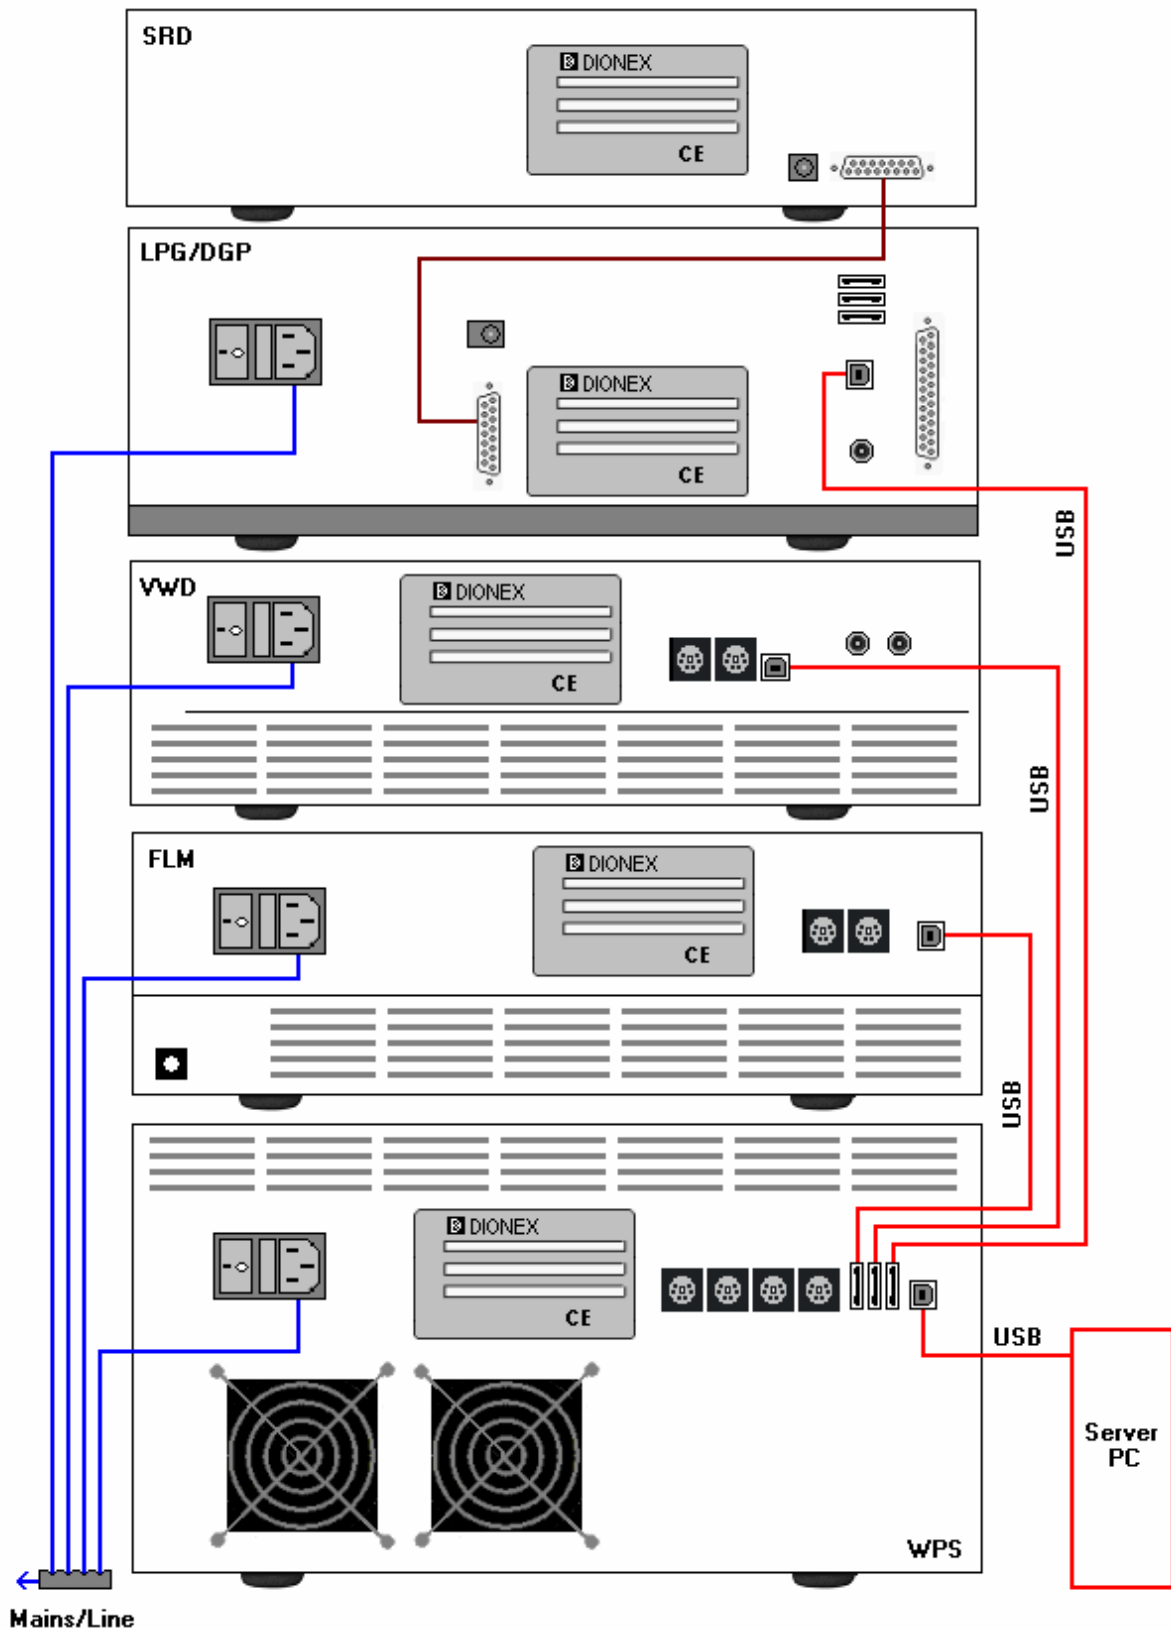

Fig. 2: Rear panel view of an UltiMate 3000 system
i Please note: Fig. 2 illustrates how the system modules are interconnected. This applies accordingly to for any other system structure.
**Please note:** The SRD-3600 solvent rack is usually connected to the mains via the pump (→ Fig. 2). However, an external power supply unit (part no. 6510.0004) is available as an option.
Apart from the solvent rack, all modules of an UltiMate 3000 system can be connected to the server PC separately. However, Dionex recommends interconnecting the modules, and then connecting the system to the Chromeleon server PC via only one USB connection, e.g., from the autosampler (→ Fig. 2).